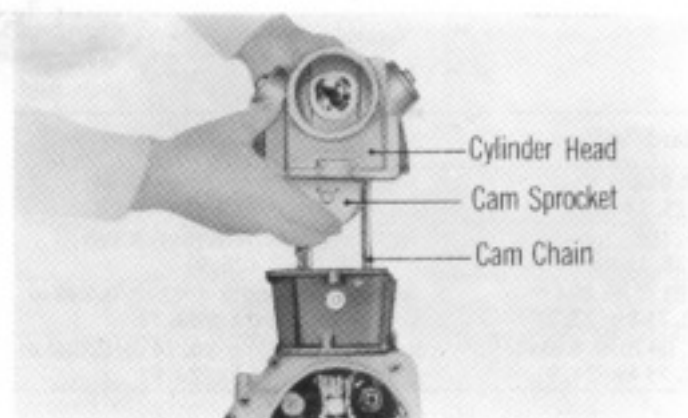

Fig. 29
1. When installing the cylinder head, the cam sprocket must be contained within the cylinder head (Fig. 29)